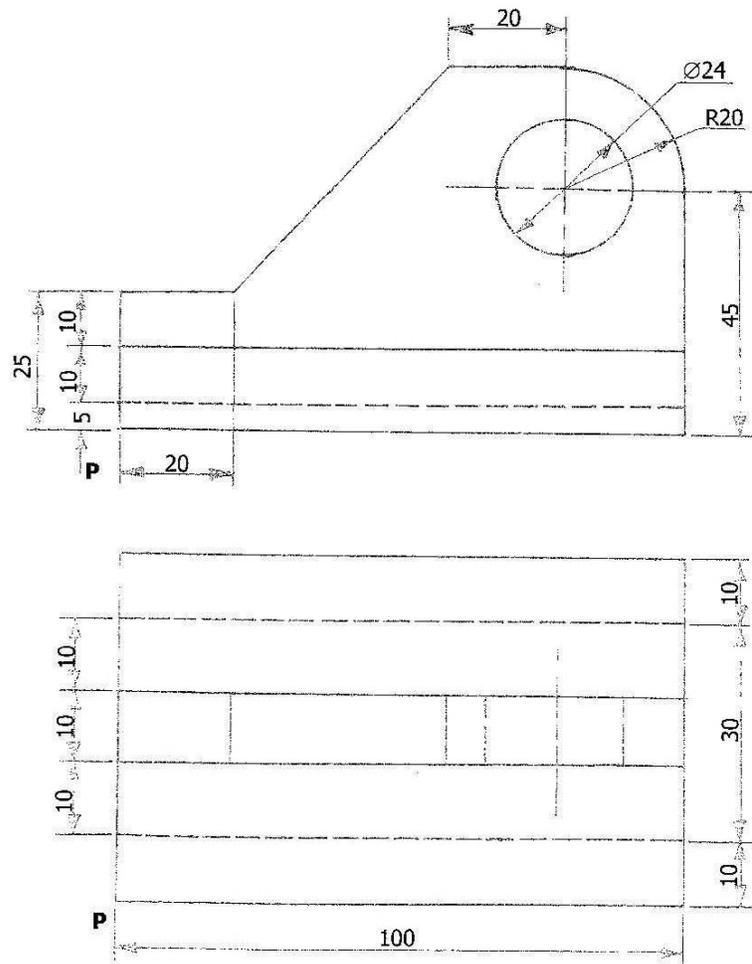

Figure 1
- 1** **Figure 1** shows a **CASTING BRACKET** in first angle projection. Make a freehand pictorial sketch of this component – approximately full size with **P** as the lowest point in the foreground.